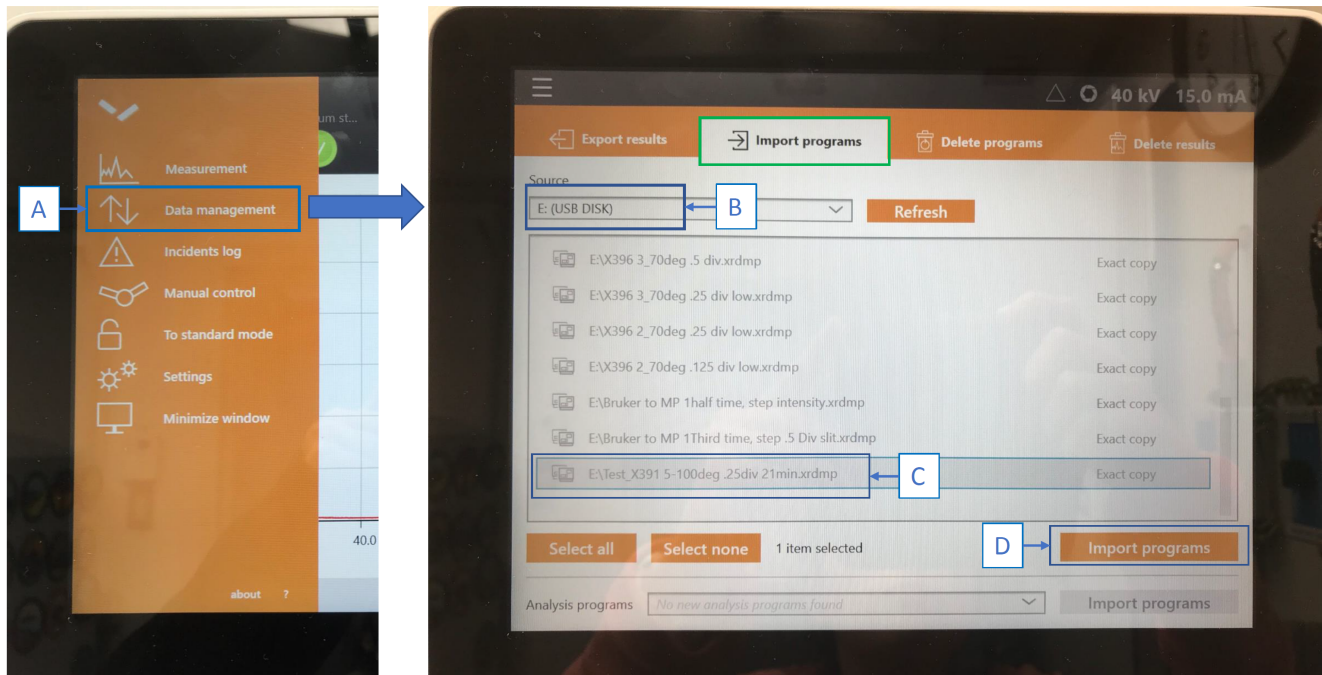

Figure 22. Importing a program from a USB drive to the Aeris XRD.
4. Click on Menu again and select '**Data Management**' (Figure 22, arrow A). Select the '**Import Programs**' tab (Figure 22)
5. Source should auto populate as the USB drive (Figure 22, arrow B). Select the measurement program (arrow C), and then click '**Import Programs**' (arrow D)